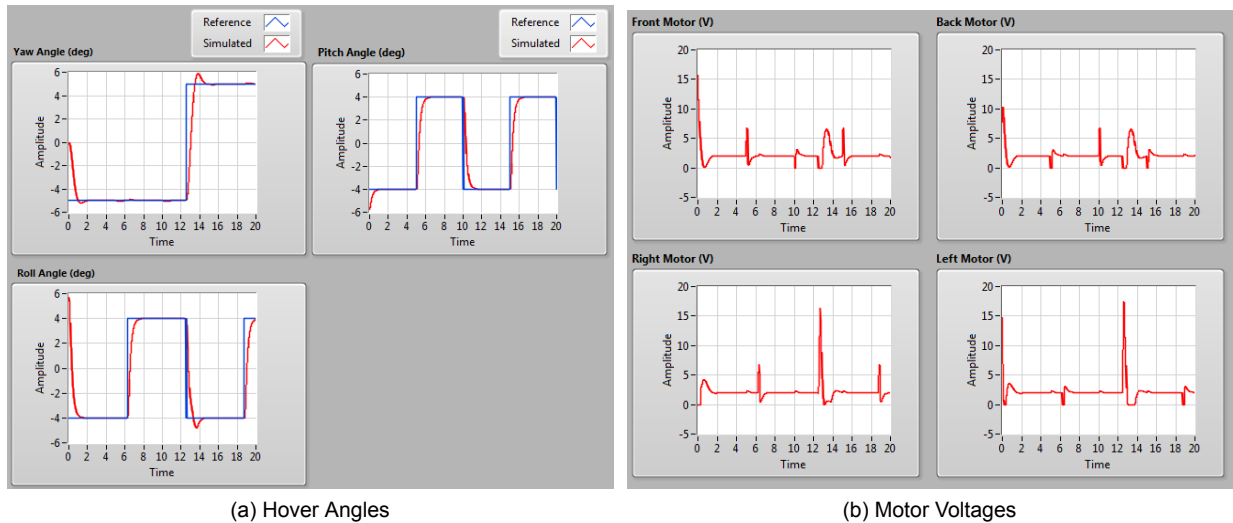

Figure 3.4: Sample simulated closed-loop response of 3 DOF Hover
- Run the simulation by clicking on the *OK* button. The scopes should be displaying responses similar to Figure 3.4. The yaw, pitch, and roll angles should track the commanded square position signal scope. The control signal is shown on the *Motor Voltage* tab and it shows how the Saturation block only allows positive control voltages and limits them to a maximum of 20V (which can be changed). At low command angles, the voltages are changing about the bias voltage 2 V, i.e., $V_{bias} = 2V$.